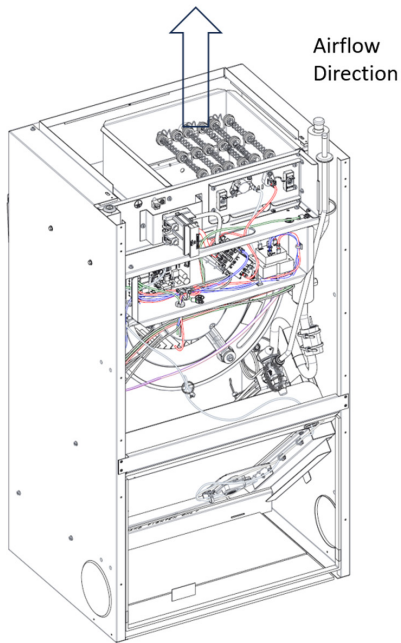

FIGURE 4
2. Secure the electric heat face plate using the screws removed in Step 4. Use caution to not bend or damage the electric heating elements, the limit switches or fuses during this process. See below Figures 4 and 5